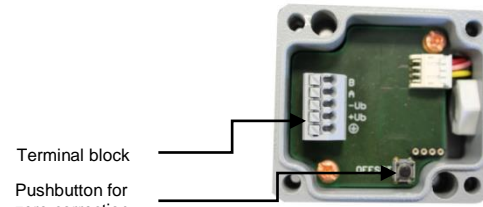

Fig. 3: Connection diagram
The DPT 100 can be zeroed via a button. To do so, press the button (Fig. 3) for about 3 seconds.
- 6. Press the button (Fig. 3) for about 3 seconds.